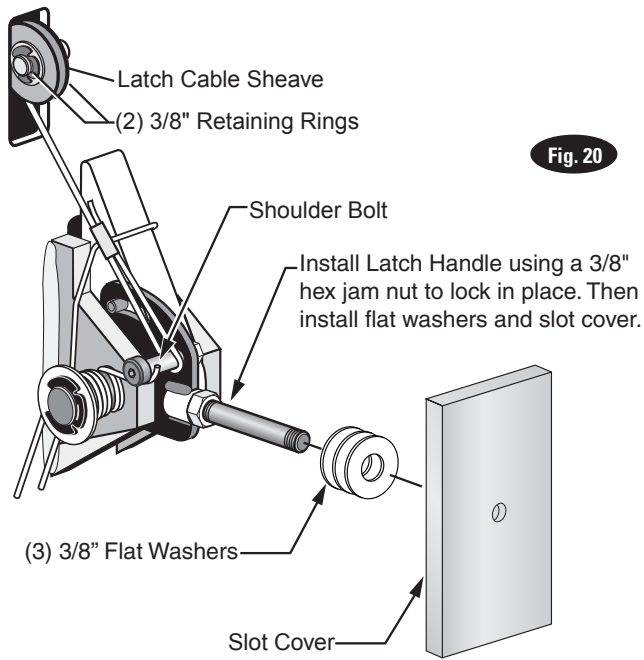
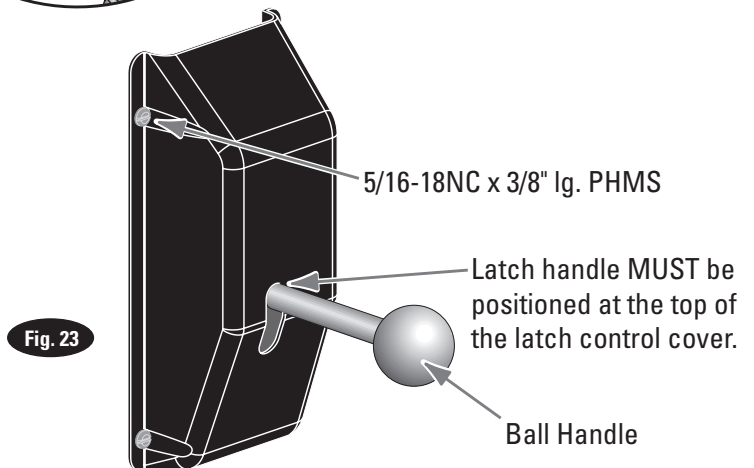

Fig. 20
Fig. 23
- Install latch cable sheave and retaining rings in upper slot of power unit column as shown, Fig. 20.
- Slip loop end of cable over end of shoulder screw on right side latch control plate, Fig. 20.
- Feed the other end of the cable through the latch cable sheave slot making sure that the cable is running under the bottom side of the latch cable sheave and inside the right column, Fig. 20.
- At this point you **MUST** install the latch handle, jam nut, and right column latch cover Fig. 20 & Fig. 23. Install latch handle ball, Fig. 23.